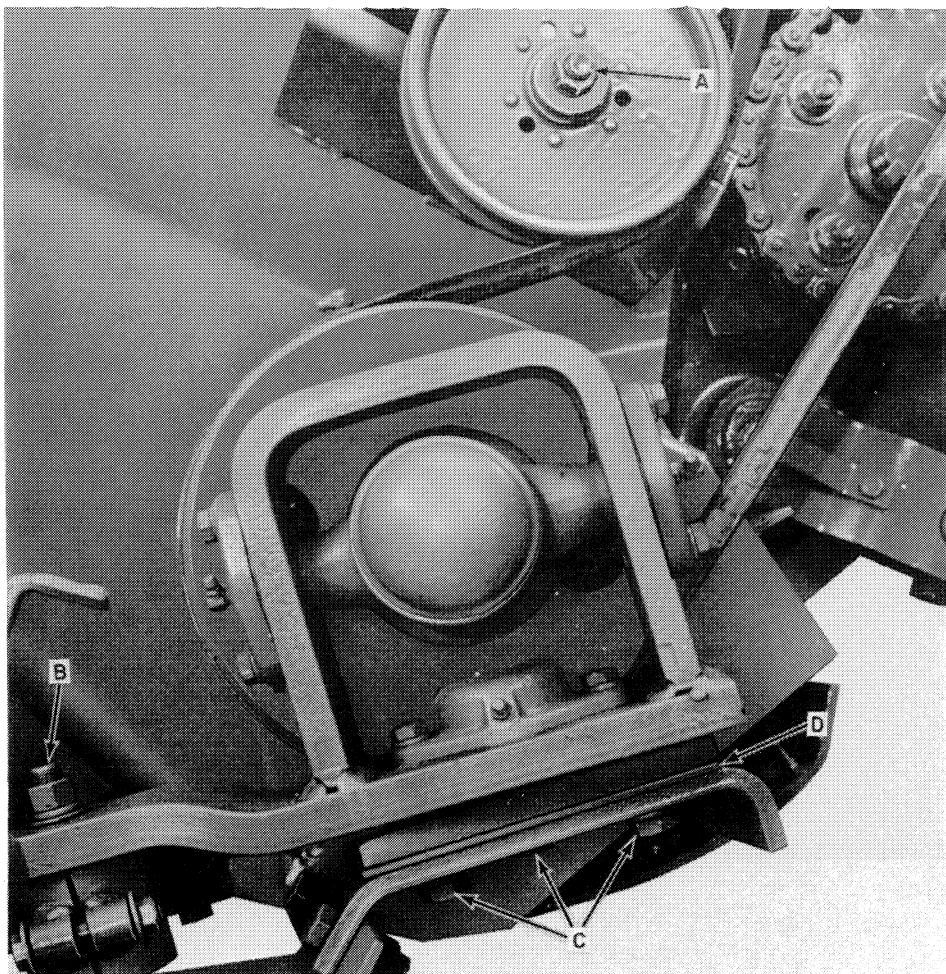

FIGURE 1
1. Loosen the sickle drive belt idler at A, Figure 1.
3. Remove the knife head bolt, B, Figure 1.
4. Remove bolts, C, and spacer, D, Figure 1.
Work the sickle belt under the steady rest support. Install bolts, C, Figure 1, and tighten these bolts.